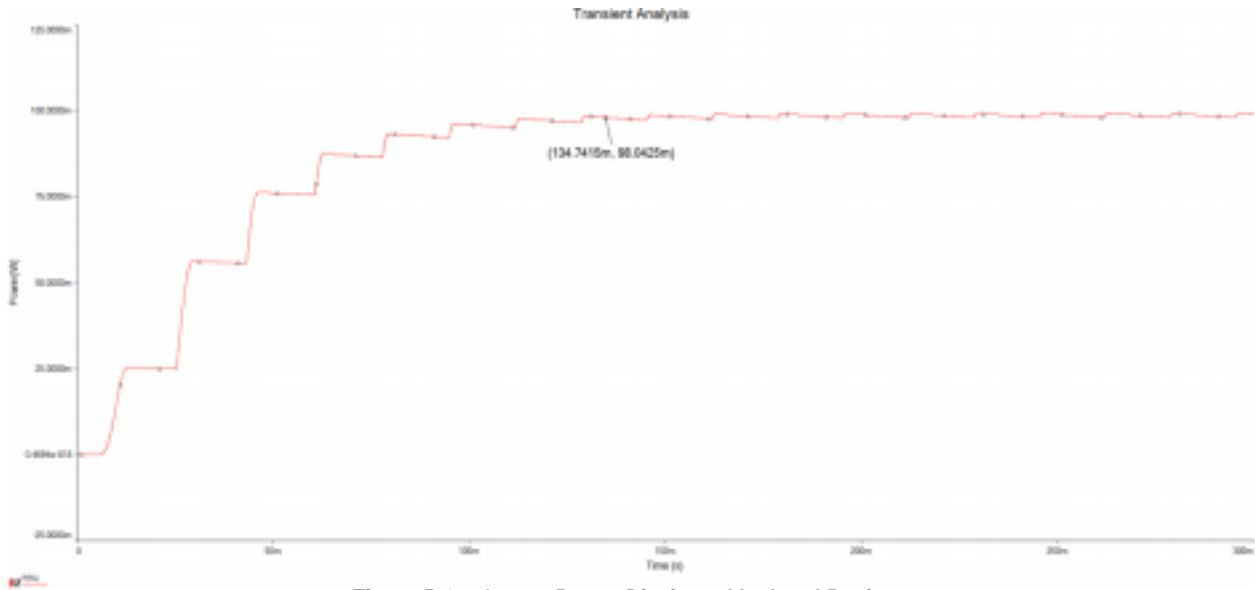

Figure P.6 – Output Power Dissipated by Load Resistor
4. **Figure P.6** shows the power dissipated by the load resistor P_L is roughly 100mW. You must choose an appropriately sized load resistor for your voltage doubler so that it dissipates no more than 100mW of power.